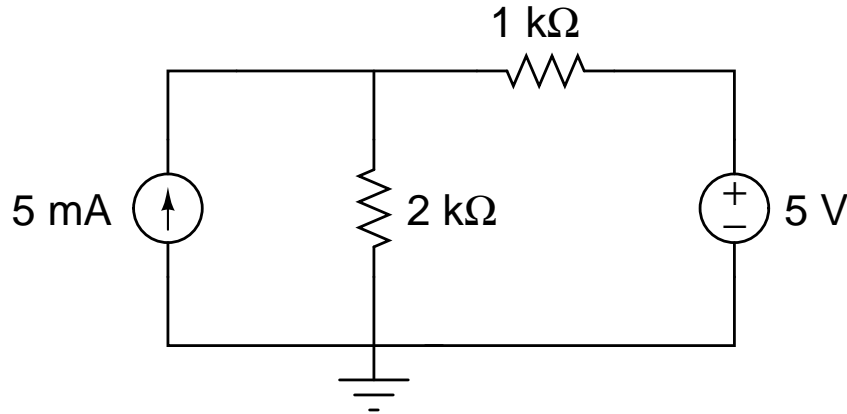

Figure 2: Circuit to illustrate functionality of Micro-Cap.
**Getting a start with Micro-Cap.** The following tutorial will describe the circuit simulator Micro-Cap, an analysis package that you will use in many courses and perhaps even as a practicing engineer. This write-up will get you to a point where you will be able to create a schematic drawing for a circuit containing all the devices we have used thus far in lab. You will then be able to have Micro-Cap calculate the DC voltages at each node in the circuit and plot the transient response for circuits with inductors, capacitors and resistors. We will begin by building the very simple circuit shown in Figure 2.
9. Now you must wire up the missing connections. Change the mouse to a wiring tool by selecting the *Wire Mode Icon* which is 3 icons to the right of the *Select Mode Icon*. You can also type (Ctrl+W). Use this icon to draw two wires connecting the current source to the 2k resistor and the negative side of the voltage source. Your circuit should now look almost like the schematic in Figure 2.